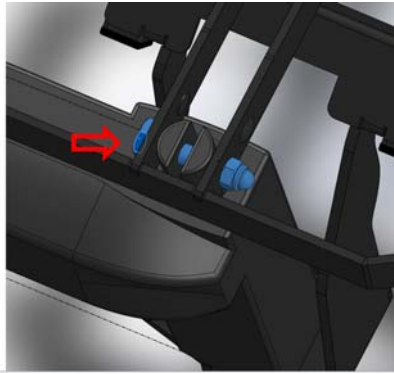

Figure 5-156
5.3.16.13 Insert hex head shoulder bolt into the upper hole on the base of the tilt actuator. Use the hex Nylon dome nut to fasten the bolt in order to fix the tilt actuator on the seat frame. (Figure 5-156)